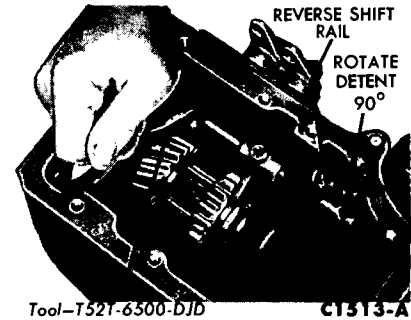

FIG. 9—Rotating Reverse Shift Rail
18. Remove the reverse gear shift fork set screw. Rotate the reverse shift rail 90° as shown in Fig. 9. Slide the shift rail out the rear of the case. Lift the reverse shift fork from the case.